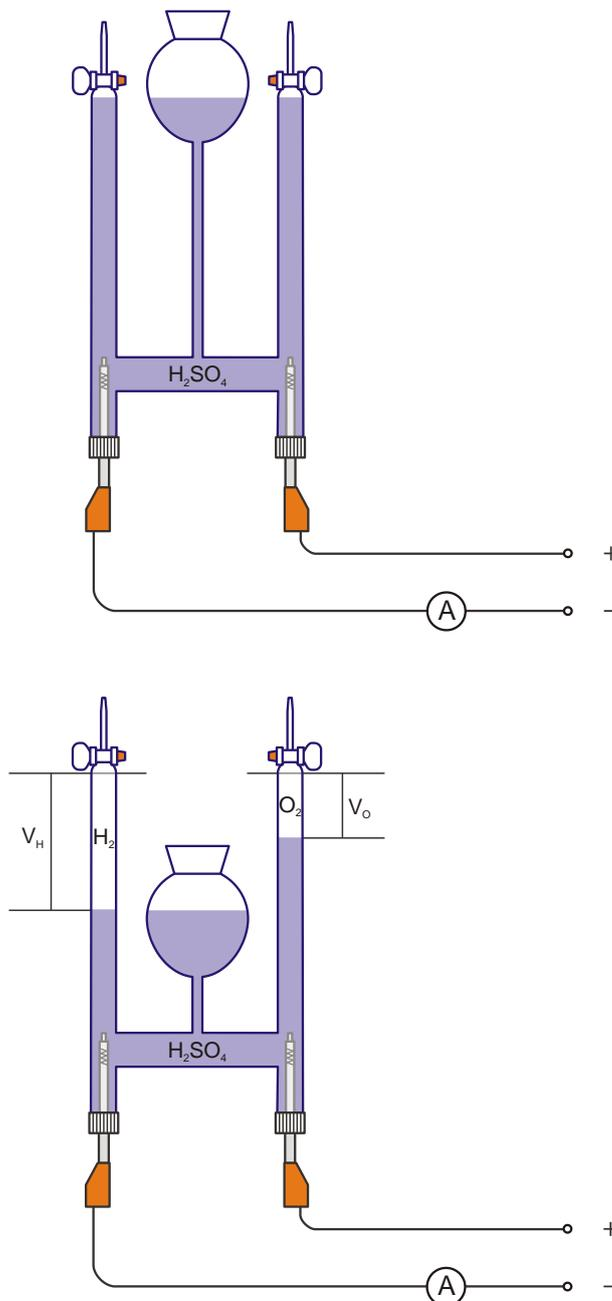

Fig. 2: Schematic of the measurement set-up at the start of measurements (top) and at completion of them (bottom).
- Carefully fill the levelling bulb with sulphuric acid from the beaker. Put the spout of the beaker inside the rim of the levelling bulb. As you fill it, reduce the height of the levelling bulb step by step until the gas collection tubes are completely full. Once the filling procedure is complete, the height of the filling bulb should be such that the liquid level in the levelling bulb itself and that in the two gas collection tubes are initially the same and at the same level as the ground glass valves (see Fig. 2 top).
- Connect the negative pole of the DC power supply to the electrode for the left-hand gas collection tube and introduce a digital multimeter in between in order to measure the current (see Fig. 2 top). Connect the positive pole of the DC power supply to the electrode for the right-hand collection tube.
- Observe how gas develops in the H_2 gas collection tube (negative pole) of the water dissociation apparatus and lower the levelling bulb in such a way that the liquid level in the levelling bulb and in the H_2 gas collection tube remain the same (Fig. 2 bottom).